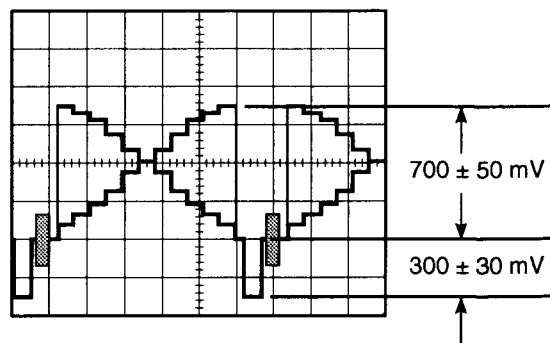

Fig. 5-16
- Adjust data with the **ARROW** keys so that Video signal level becomes 700 ± 50 mV as shown in Fig. 5-16.